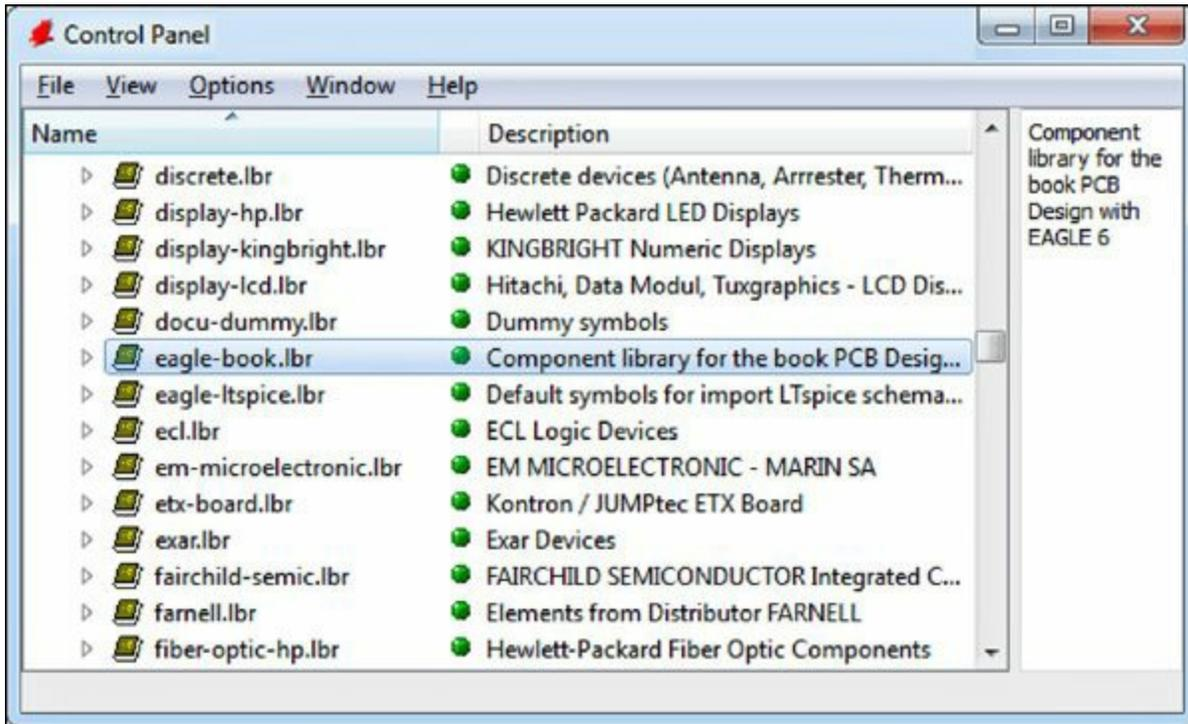

Figure 3.3: Activating the eagle-book Library
3. Click the small green dot separating eagle-book.lbr from its description. The dot will become large to indicate that the library is active. This is shown in Figure 3.3.